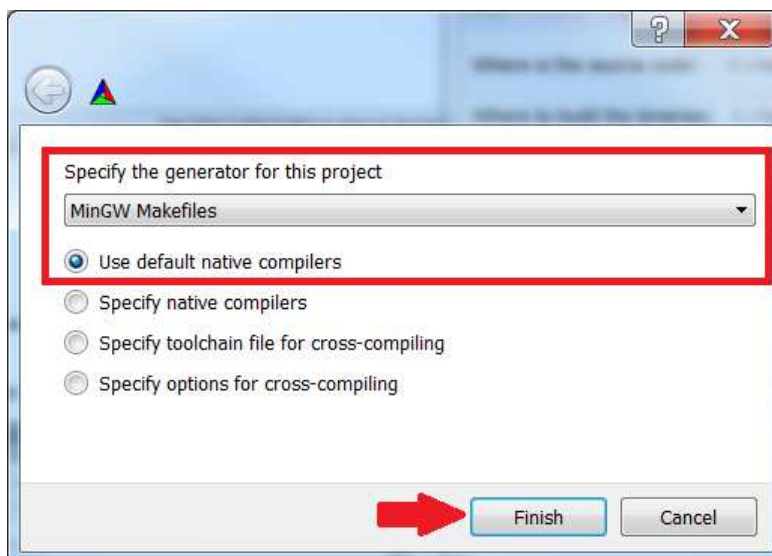

Figure 28. CMake Configure Generators
8. Select the “Use default native compilers” radio button and then select "Finish" as shown in Figure 28. CMake will now configure the OpenCV files. It should configure with no errors.